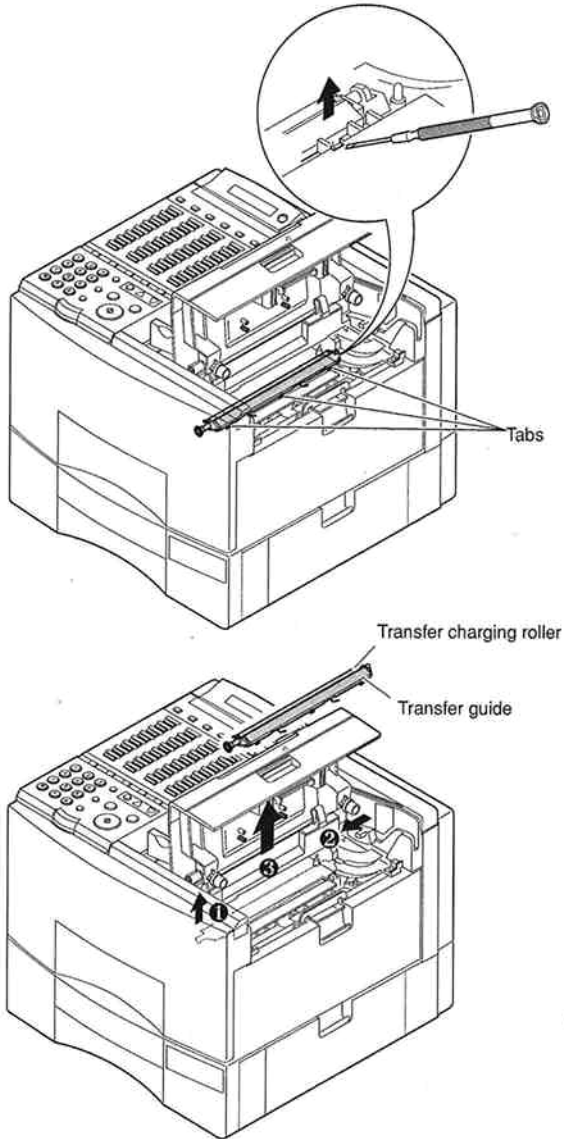
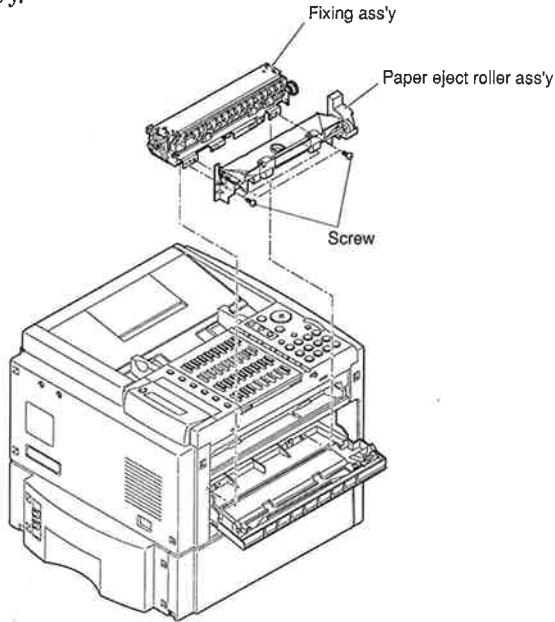

Figure 4-4 Disassembly Procedure (Transfer Charging Roller)
Figure 4-7 Disassembly Procedure (Fixing ass'y)
- (1) Remove the side cassette and open the exit paper cover.
- (2) Remove the paper eject roller ass'y and the fixing ass'y.
See Figure 4-7 Disassembly Procedure (Fixing ass'y) for (1)~(2)
- (3) Remove two springs and the fixing upper cover.
- (4) Remove the fixing film unit.
- (3) Remove the two springs and remove the fixing upper cover.
- (4) Remove the fixing upper guide.
- (1) Remove the side cassette and open the exit paper cover .
- (3) Open the printer cover and remove the toner cartridge.
- (4) Remove the rear cover, the front cover, and the document table ass'y.
- (5) Remove the two screws and remove the mirror.
- (6) Remove the transfer guide tabs at three points.
- (7) Raise the left-most end of the transfer charging roller shaft clear of the transfer roller mount (left). (See ❶)
- (8) Slide the transfer charging roller and transfer guide to the left and remove the transfer roller shaft from the transfer roller mount (right). (See ❷ & ❸)
*See Figure 4-4 Disassembly Procedure (Transfer Charging Roller)